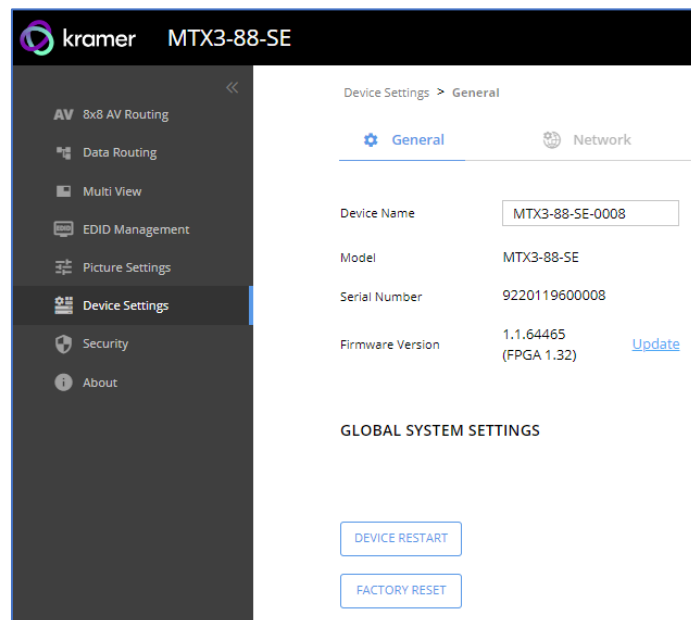

Figure 45: MTX3-88-SE Device Settings – General
1. In the Navigation list, click **Device Settings**. The *Device Settings>General* page appears (Figure 45).
1. Click **DEVICE RESTART** on the **Device > General** page (Figure 45).
- Click **FACTORY RESET** on the **Device > General** page (Figure 45).